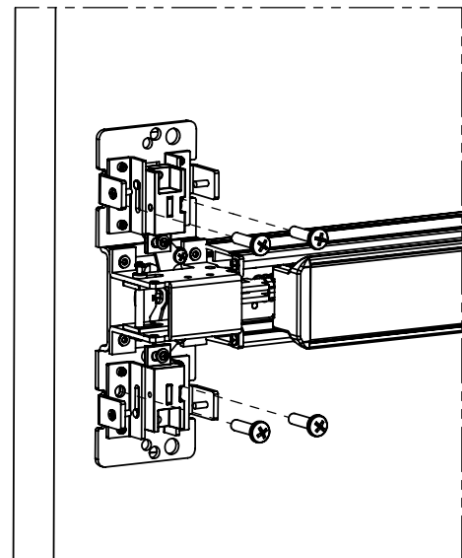

FIGURE 10-3
- D. Bolt the head of the exit device using the supplied screws to the trim, sexbolts, or threaded holes in the door (see Figure 10-3).